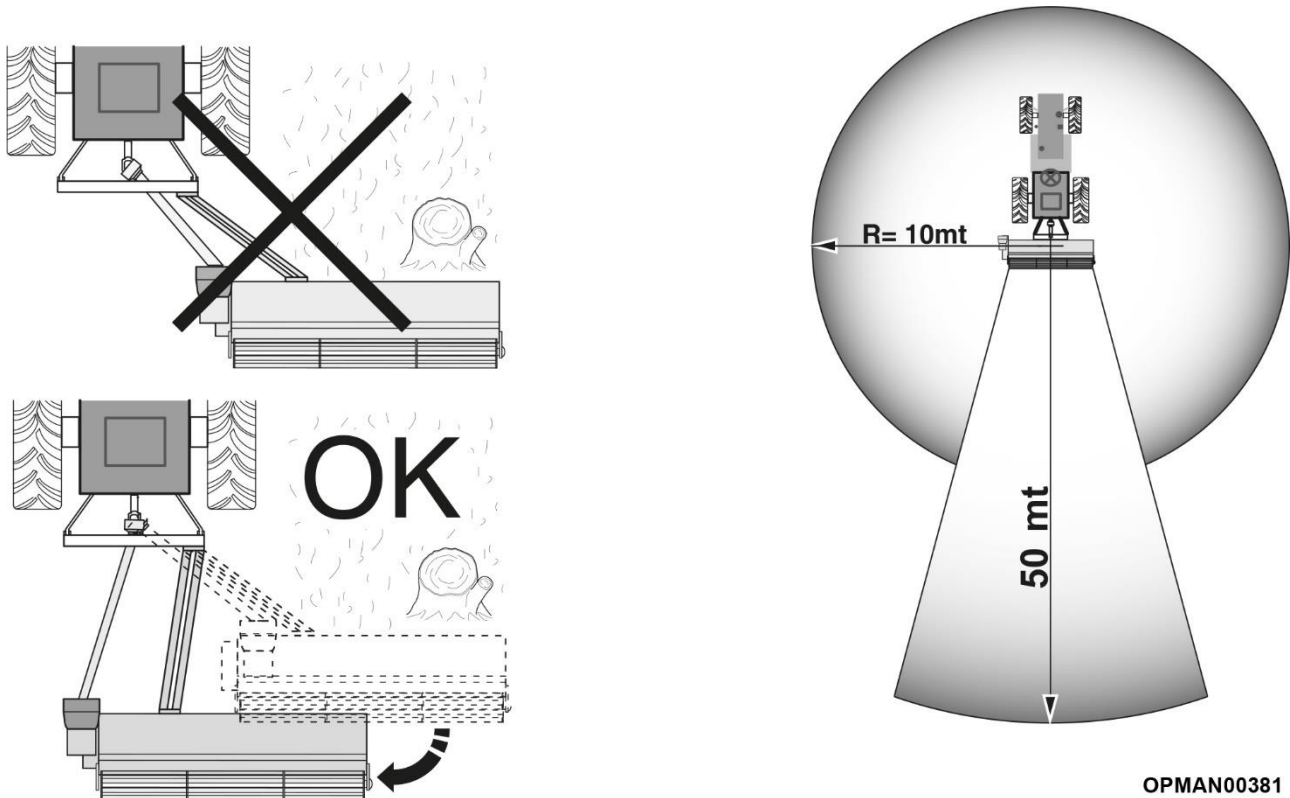

Figure 16
**DANGER!** During work, stones or other objects found in the terrain can be lifted and projected by the rotating flails. Constantly check that there are no persons or animals within the operating range of the Mower (Figure 16).